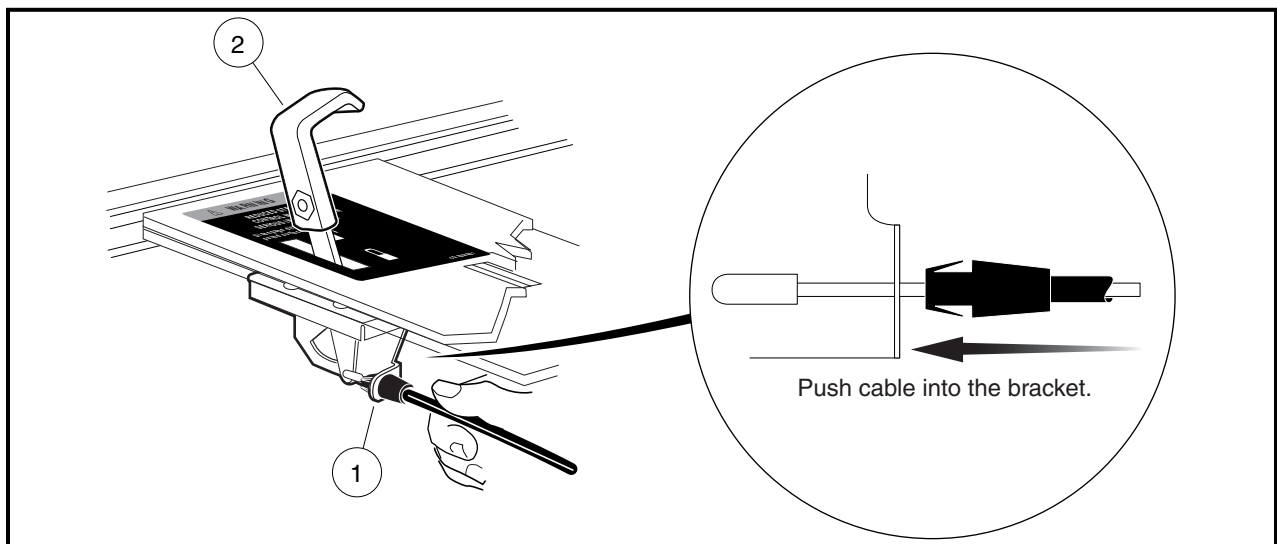

Figure 16-60 Differential Cable Installation
- 5.4. Push the cable toward the front of the vehicle to secure the cable to the bracket (**Figure 16-60, Page 16-23**).